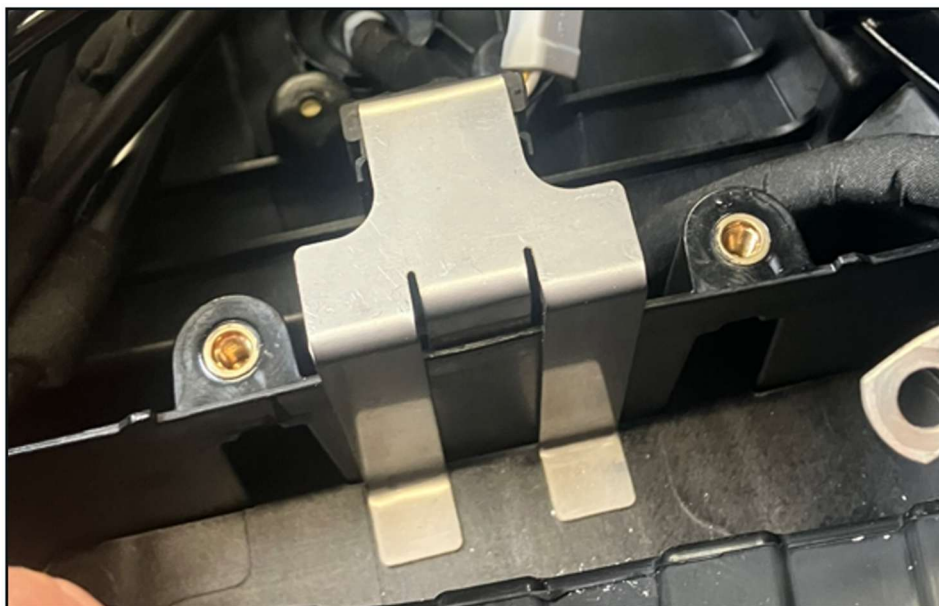

Fig. 5 – Retaining plate position on the battery box (middle flap outside)
- Unplug the start relay, mount the retaining plate and adapter cable (see Figs. 5 and 6).